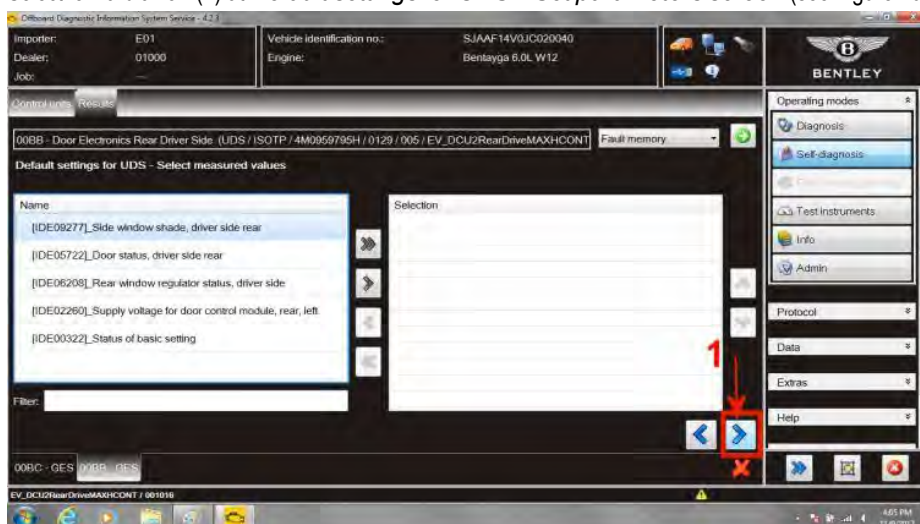

Figure 11
21. Select forward arrow (1) at *Default settings for UDS – Select measured values* it is not necessary to select a measured value (see Figure 11)